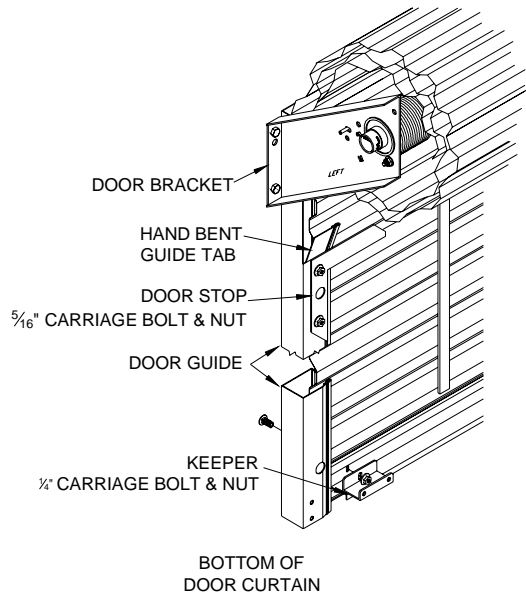

Figure 13.
8.3 Attach the two keepers to the bottom interior edge of the door with one (1) 1/4" carriage bolt and whiz nut in each keeper. See Figure 13.
8.4 Tighten door stops installed in paragraph 8.1 making certain track bolts are seated in guides. (Figure 13)